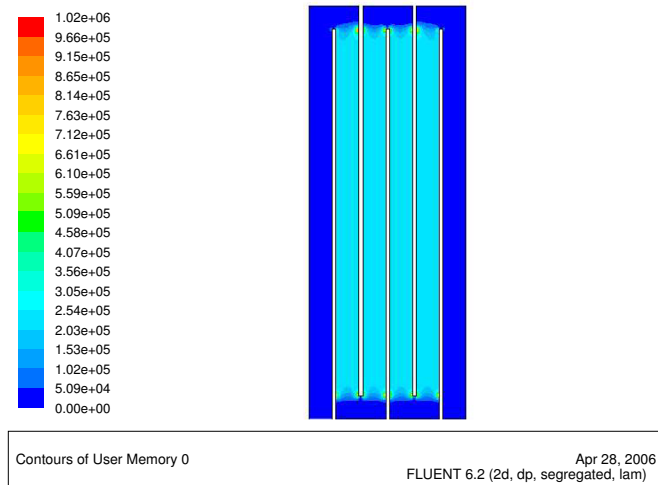

Figure 11.7: Contours of Energy Source Distribution
4. Display filled contours of energy source (Figure 11.7).